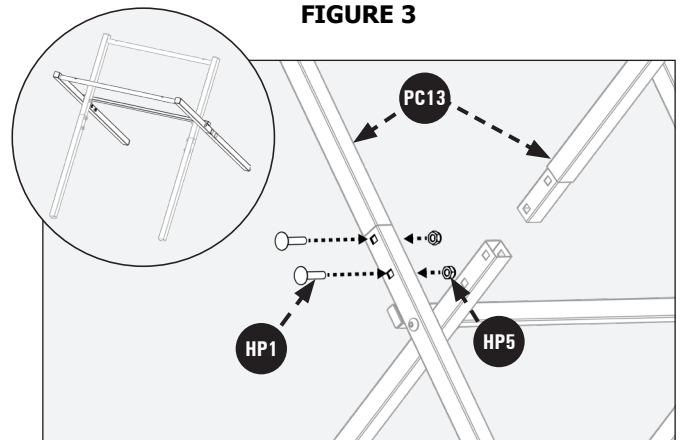

FIGURE 4
4. Turn stand upside down to attach legs. With assembled stand open, with the 13mm Combination Wrench (Not Supplied), attach (4) Stand Legs (PC13) to the stand using (8) M8 x 30mm (1 3/16 inch) Carriage Bolts (HP1) and (8) M8 lock nuts (HP5). Tighten lock nuts to secure legs to stand, as seen in Figure 4.
See finished assembly of stand in Figure 4.